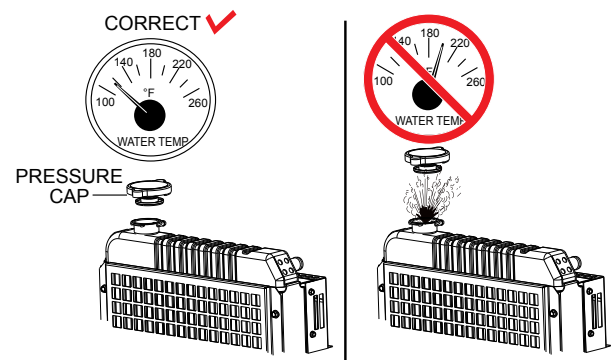

Figure 79. Radiator Pressure Cap Removal
1. Remove the radiator pressure cap (Figure 79) only if the coolant temperature is below 120°F (50°C).